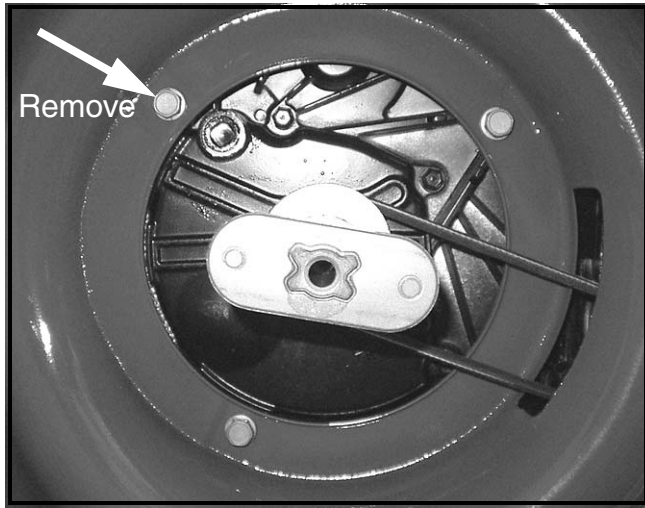

FIGURE 3
7. Using a 1/2" socket, extension and ratchet, remove the one engine self-tapping screw shown in Figure 3.